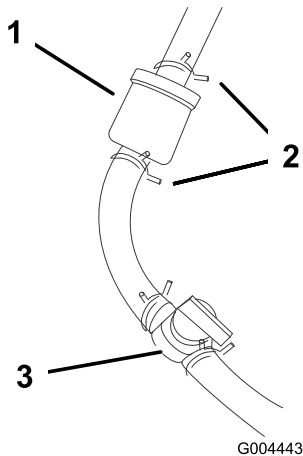

Figure 45
4. Close the fuel shut-off valve (Figure 45).
5. Squeeze the ends of the hose clamps together and slide them away from the filter (Figure 45).
7. Install a new filter and move the hose clamps close to the filter to secure the fuel line (Figure 45).